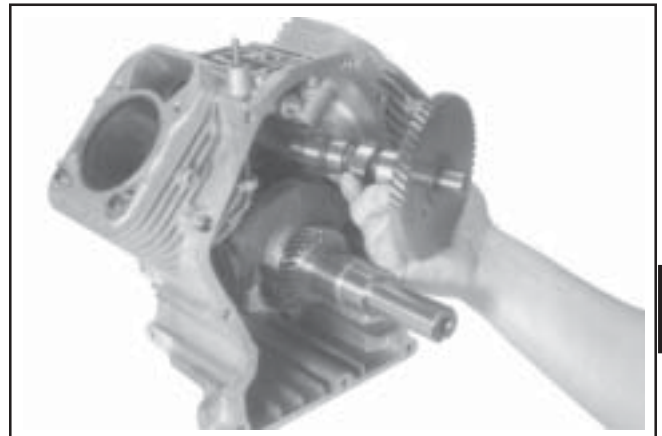

Figure 9-56. Removing Camshaft.
1. Remove the camshaft and shim (if used). See Figure 9-56.